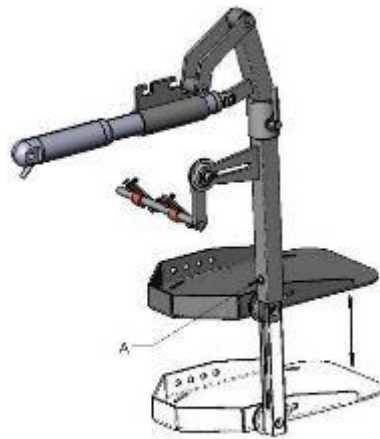

Figure 13
The footplate can be height adjusted. Loosen the screw (A), place the footplate at the required level and tighten the screw (A). Figure 13.